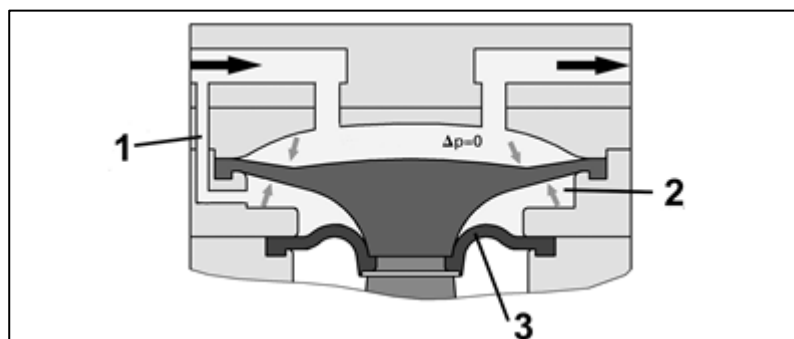

Fig. 5: Function diaphragm stabilization system
An additional diaphragm, the so-called stabilization diaphragm (3), separates the underside of the working diaphragm from the "crank" space of the pump (see Fig. 5). The space between the two diaphragms, called a vacuum chamber (2), is connected with the suction side of the pump via an balancing connection (1). This way, the vacuum chamber has approximately the same pressure as the working space of the diaphragm pump. The pressure difference between the upper and underside of the diaphragm approaches zero. The working diaphragm remains stable, independent of the inlet pressure of the pump. This improves the suction speed of the pump significantly, over its entire working range.